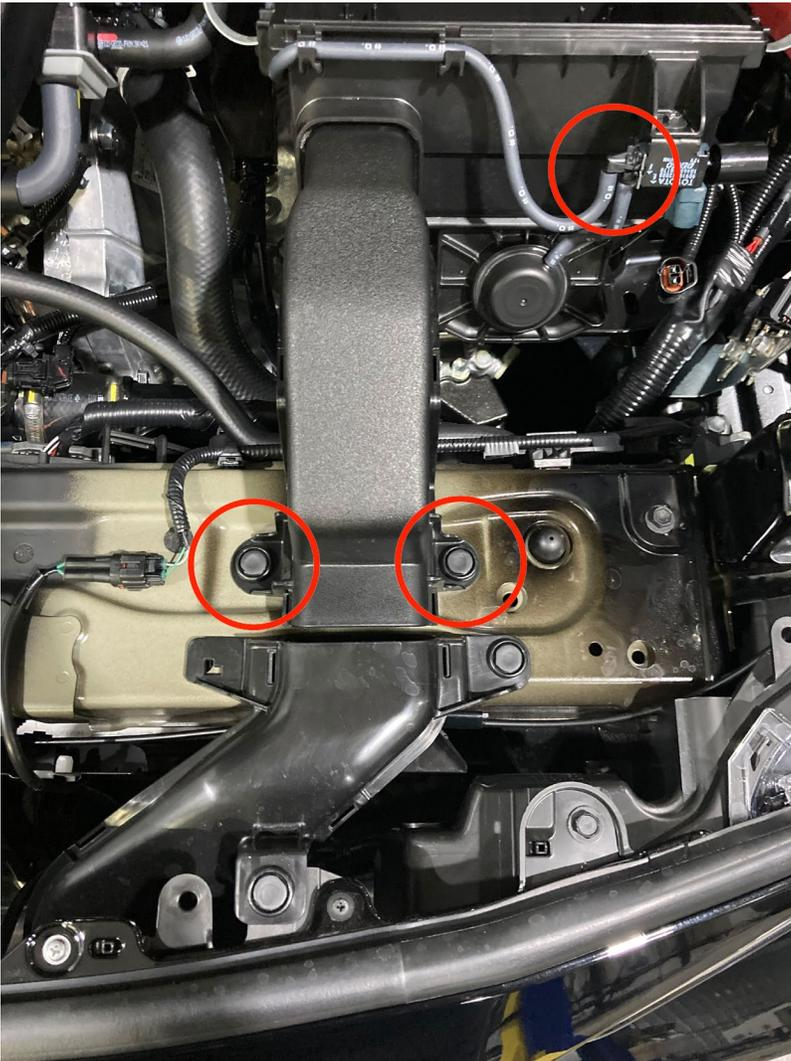

Figure 3
3. Remove (2) more plastic clips and remove the plastic air duct that routes to the OEM air box. Unplug small hose (only 1) and remove from air box routing tabs. (Fig 3)